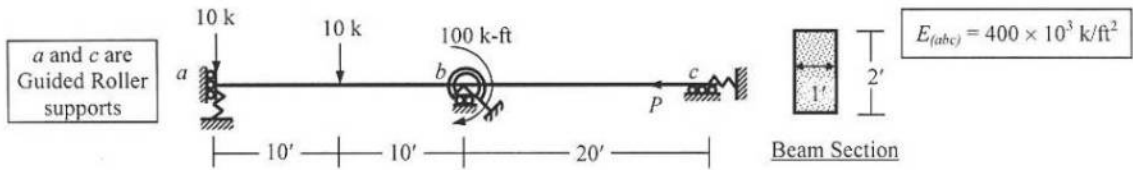

Fig. 5
5. Consider axial and flexural deformations to assemble the stiffness matrix, load vector and specify boundary conditions of the beam abc loaded as shown in Fig. 5, if $P = 10$ k, $E_{(abc)} = 400 \times 10^3$ k/ft² and springs at a, b, c represent circular foundations of radius 2-ft on the surface of sub-soil (half-space) with shear modulus $G_s = 150$ k/ft² and Poisson's ratio $\nu = 0.30$.
6. Depending on the stiffness of springs at a, b and c , the beam abc in Fig. 5 can take the forms shown in Fig. 6(i) and 6(ii). Determine the